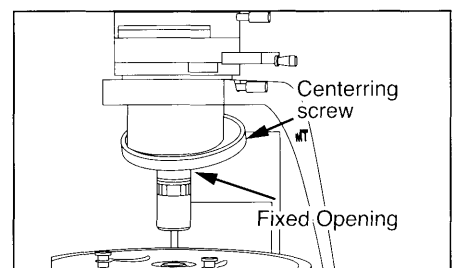

Figure 4
- Remove the objectives from their objective cases while being careful not to touch any part of the optics. Strain free objectives are marked with the letter "POL" in red and are very sensitive and are susceptible to pressure or impacts. They should only be handled by the knurled collar. Gently screw the 10X objective into the "fixed" opening of the nosepiece (the opening that does NOT have centering screws). (Fig.4) Install the rest of the objectives incrementally in order of power (e.g. 4X, 40X, 60X, etc).
- Remove the objectives from their objective cases while being careful not to touch any part of the optics. Strain free objectives are marked with the letter "POL" in red and are very sensitive and are susceptible to pressure or impacts. They should only be handled by the knurled collar. Gently screw the 10X objective into the "fixed" opening of the nosepiece (the opening that does NOT have centering screws). Install the rest of the objectives incrementally in order of power (e.g. 20X, 40X, 60X, etc) .(Fig.4)